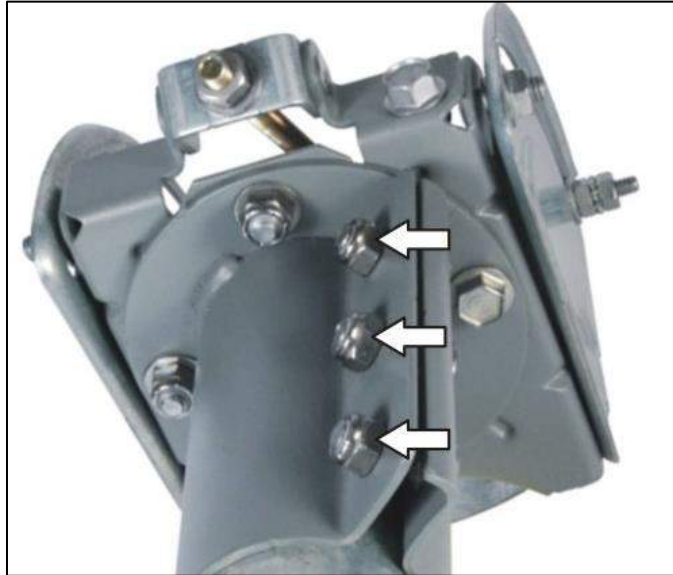

Figure 29: Az/El canister nuts
1. Loosen the three Az/El canister nuts (arrows in Figure 29) enough to allow the antenna assembly to rotate freely on the mast.